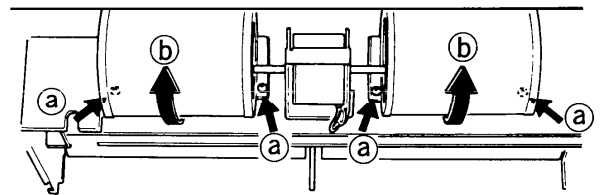

Fig.10
- (1) Remove the four screws (a) fixing the fan casing.
- (2) Rotate the fan casing for 90° in the direction of the arrows (b). Fig. 10